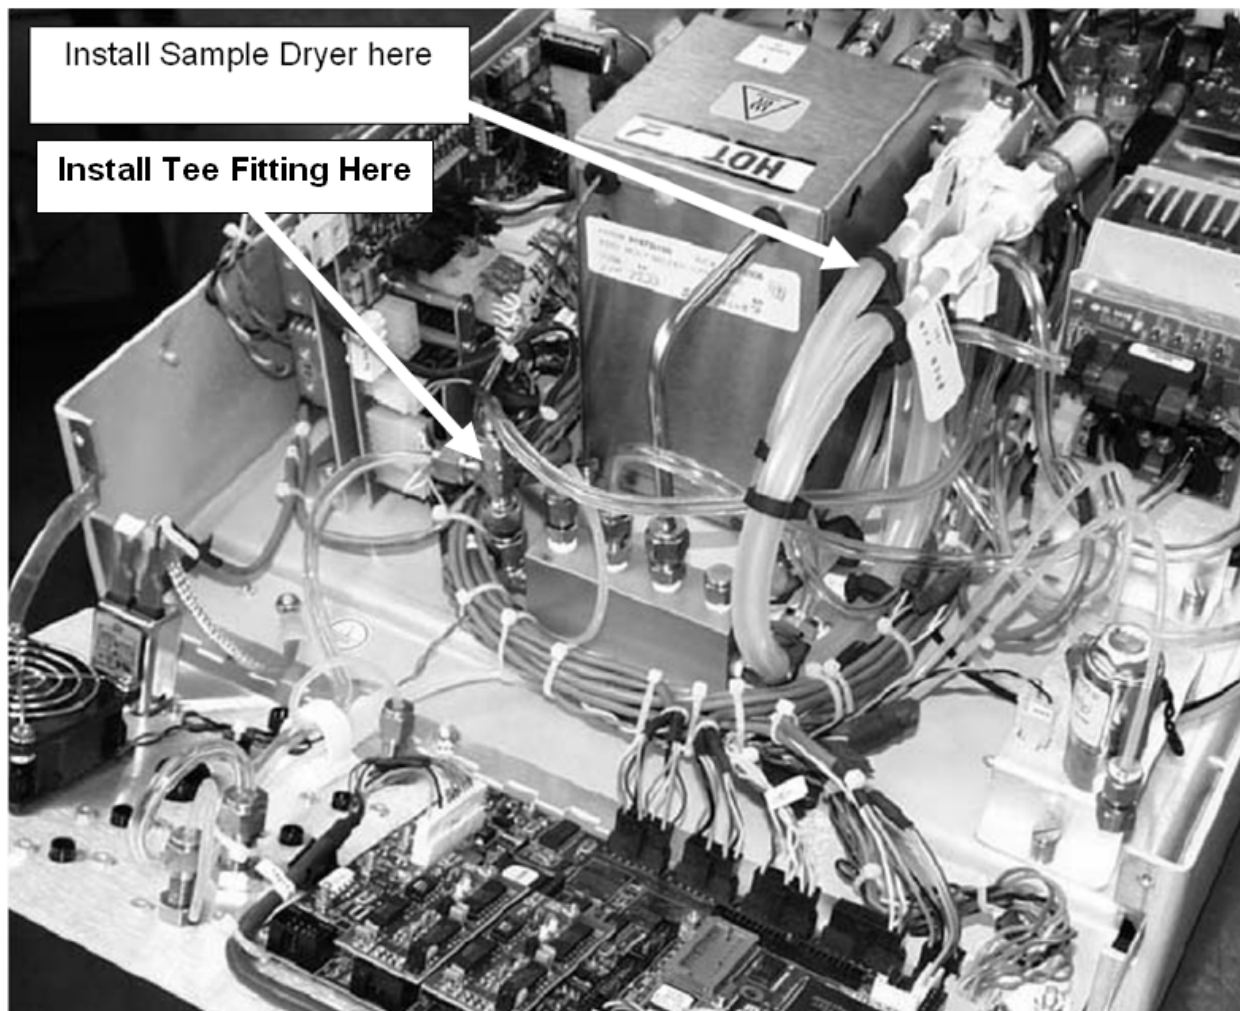

Figure 1 – Sample conditioner installation location
1. Please use Figures 1, 2 and 3 later on in this document to help guide you through the steps of installing the sample conditioner (Dryer) into the analyzer.
8. Put the dryer into the analyzer such that the black PTFE tube is on the bottom and slide it into the space between the ozone dryer bracket and the converter, so that the tube turns up and meets at the T on the top of the valve where you just disconnected the fitting. (See Figure 1)